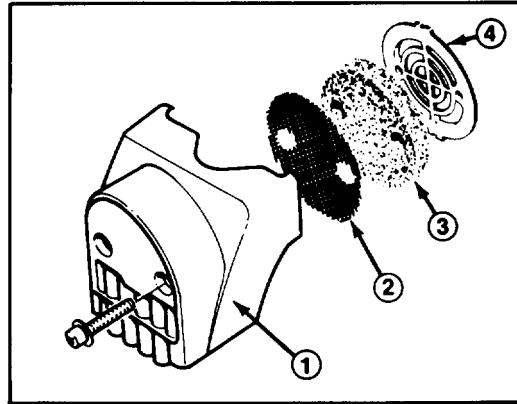

Figure 17
### SERVICING AIR CLEANER (Fig. 17)
1. Remove two (2) screws securing air cleaner cover to trimmer.
6. Reinstall air cleaner components as shown in Figure 17.
5. Reinstall air cleaner cover and air cleaner components to trimmer. See Servicing Air Cleaner, Figure 17 for component sequence.